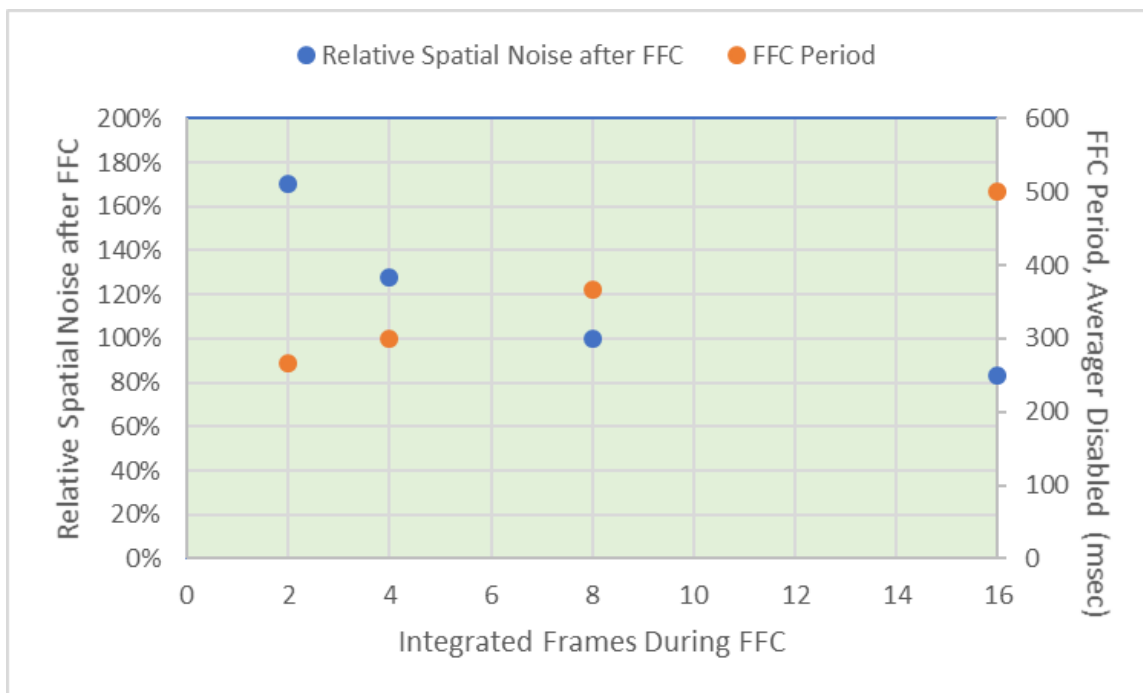

Figure 21: Relative Spatial Noise after FFC vs. Number of Integrated Frames (factory-default = 8)
- **FFC Integration Period:** During each FFC event, the camera automatically integrates n frames of sensor data to generate the resulting correction term. **FFC Integration Period** specifies the value of n , either 2, 4, 8 or 16. Utilizing fewer frames decreases the FFC period (with diminishing returns due to overhead) whereas utilizing more frames provides greater reduction of spatial noise (also with diminishing returns due to $1/f$ noise). Figure 21 quantifies the benefit. The factory-default value is 8 frames for cameras which include a shutter, 16 frames for shutterless. Note that with averager enabled (i.e., 30Hz output rather than 60Hz output), a value of n frames represents twice as much time as with averager disabled since frame period is twice as long.